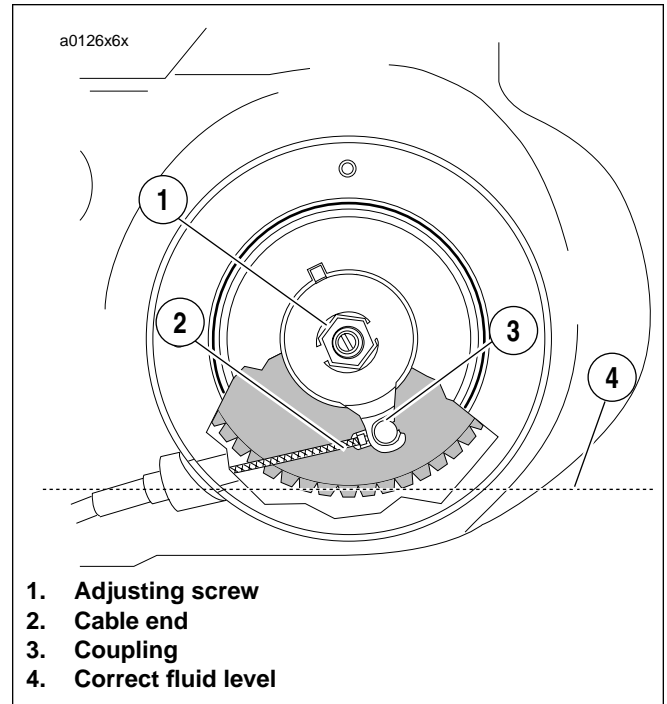

Figure 1-16. Fluid Level
5. See Figure 1-16. Inspect fluid level with motorcycle in upright position.
9. See Figure 1-16. Add Formula +, Primary Drive/Transmission Fluid as required until fluid level is even with bottom of clutch diaphragm spring.